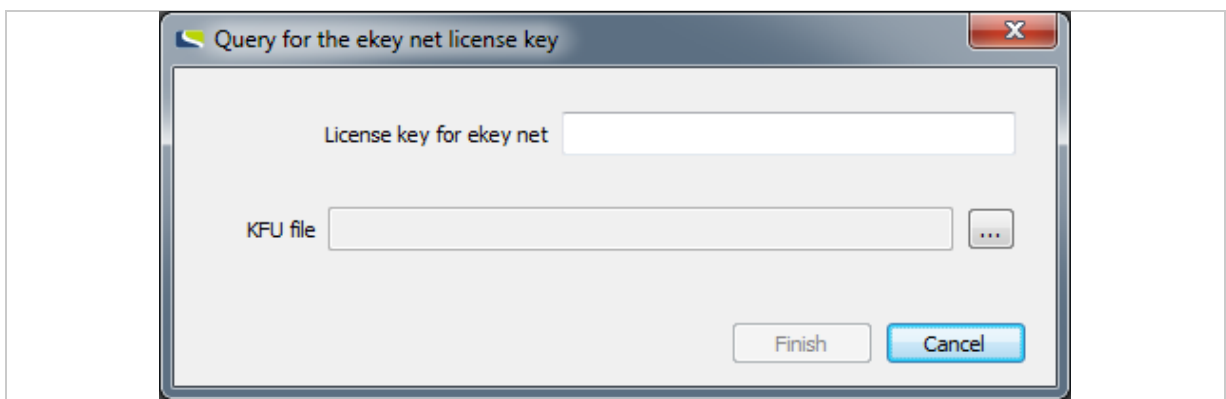

Fig. 10: **QUERY FOR THE EKEY NET LICENSE KEY**
7.	In the Query for the ekey net license key dialog, you will be asked to enter your license key for ekey net (see "Fig. 10: QUERY FOR THE EKEY NET LICENSE KEY ", page 20). You can ignore the option KFU FILE .
4th	You will be prompted to save the <code>ekeyLicenseRequest.txt</code> file. Send this file to <a href="mailto:license@ekey.net">license@ekey.net</a> . You will then receive a KFU file from ekey. When you install the ekey net master server , the QUERY FOR THE EKEY NET LICENSE KEY dialog will ask you for this file (see “Fig. 10: QUERY FOR THE EKEY NET LICENSE KEY ”, page 20).